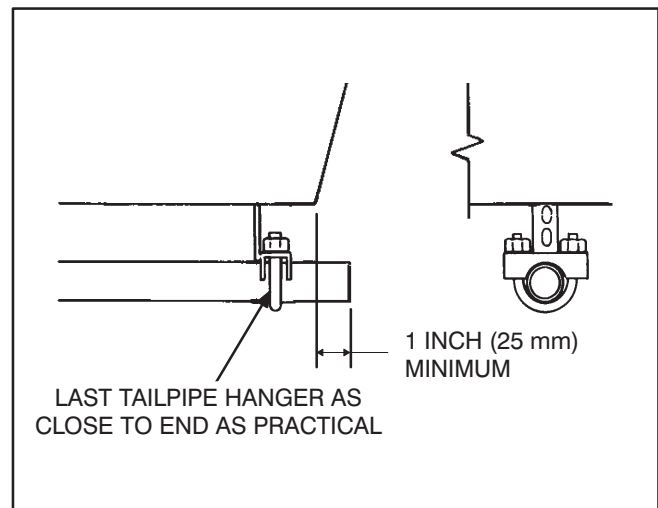

FIGURE 8. TERMINATING THE EXHAUST TAILPIPE
5. Do not terminate the tailpipe underneath the vehicle. Extend it a minimum of 1 inch (25 mm) beyond the perimeter of the vehicle (Figure 8). Support the end of the tailpipe such that it cannot be pushed inward and up under the skirt of the vehicle.